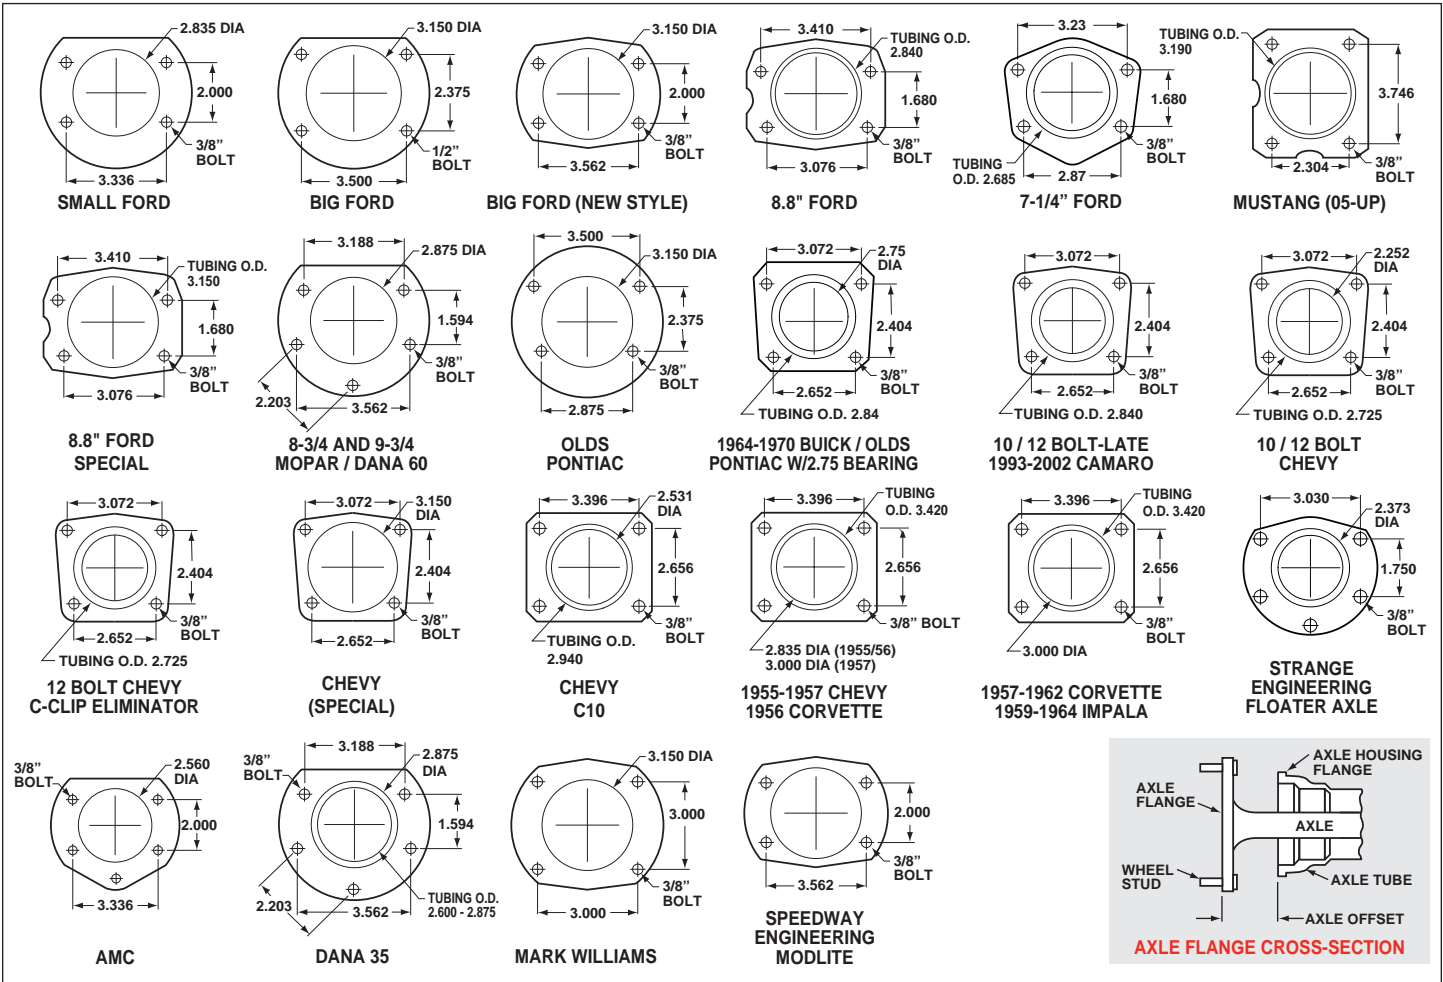

Figure 6. Rear Housing Flange Chart and Axle Flange / Offset Cross-Section
- Make sure this is the correct kit to fit the axle housing flange, not necessarily the rear end make. Many times after market manufacturers put a different make of axle housing flange on the stock rear end housing, see Figure 6. Example; Big Ford rear ends with Olds-Pontiac flanges, therefore, an Olds-Pontiac rear disc brake kit would be the correct kit to order.
- Dimension from wheel side of axle flange to wheel side of axle housing flange (see Figure 6, lower right hand corner). This dimension is critical to ensure proper alignment of the rotor to the caliper, and should match offset given in the kit description.